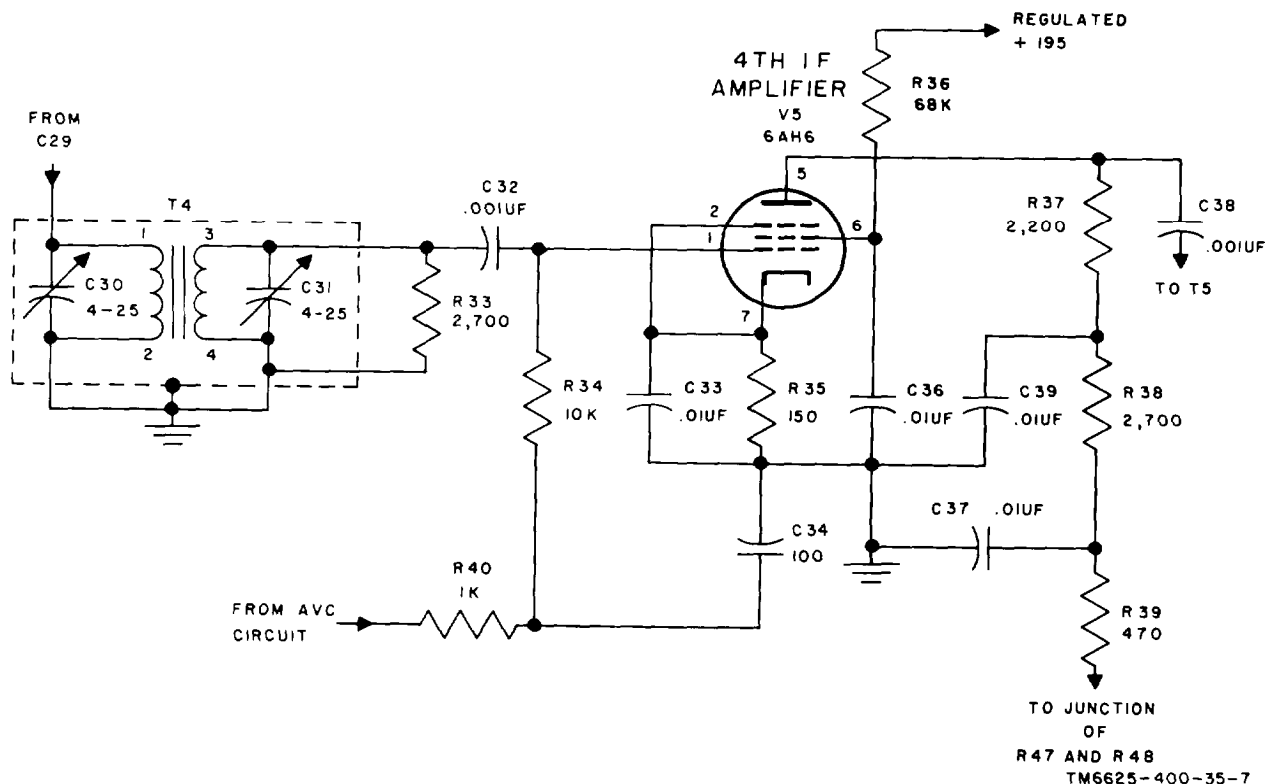

Figure 7. Fourth if. amplifier, schematic diagram.
d. Tube V5 (fig. 7) is the fourth if. amplifier. The signal input is coupled through T4 to the grid of V5. Capacitors C30 and C31 tune T4. The secondary of T4 is shunted by R33 to lower the Q of the circuit. Alternating current (at) coupling to the grid of V5 is through C32. Resistor R34 is the grid return to the avc supply. Avc decoupling is obtained by R40 and C34. Operating bias for V5 is developed by the drop across R35, which is bypassed by C33. The screen voltage-dropping resistor is R36, which is bypassed by C36. The plate